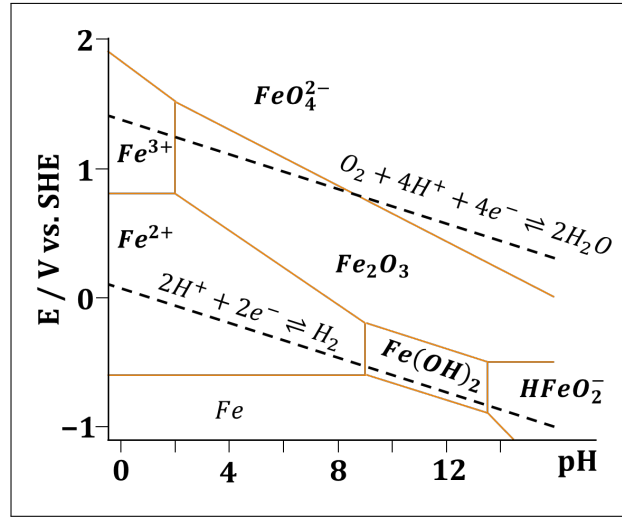

Figure 1: Pourbaix-diagram of iron. The electrode potentials are given vs Standard Hydrogen Electrode (SHE).
The thermodynamic possibility of corrosion can be seen most obviously on the so-called Pourbaix-diagrams. These diagrams show the stable components and phases as a function of the acidity,  $pH$  and of the electrode potential in aqueous medium. In Figure 1, the simplified Pourbaix-diagram of iron can be seen where the lines correspond to standard conditions, i.e., when the activity of each component is one and the pressure of the gas components is the standard pressure of 1 atm (today it is rather 1 bar).
1. **Products of corrosion processes:** Determine what corrosion processes can occur in each system based on the measured corrosion potentials and the estimated pH values in each solution (and taking into account the shape of polarization curves)! Use the Pourbaix diagram, Figure 1. For this, calculate the corrosion potentials against Standard Hydrogen Electrode. Take the potential of NCE (vs SHE) at room temperature as 0.285 V!  $E_{\text{corr, meas (vs NCE)}} = E_{\text{corr (vs SHE)}} - E_{\text{NCE (vs SHE)}}$ . Make the following summary: